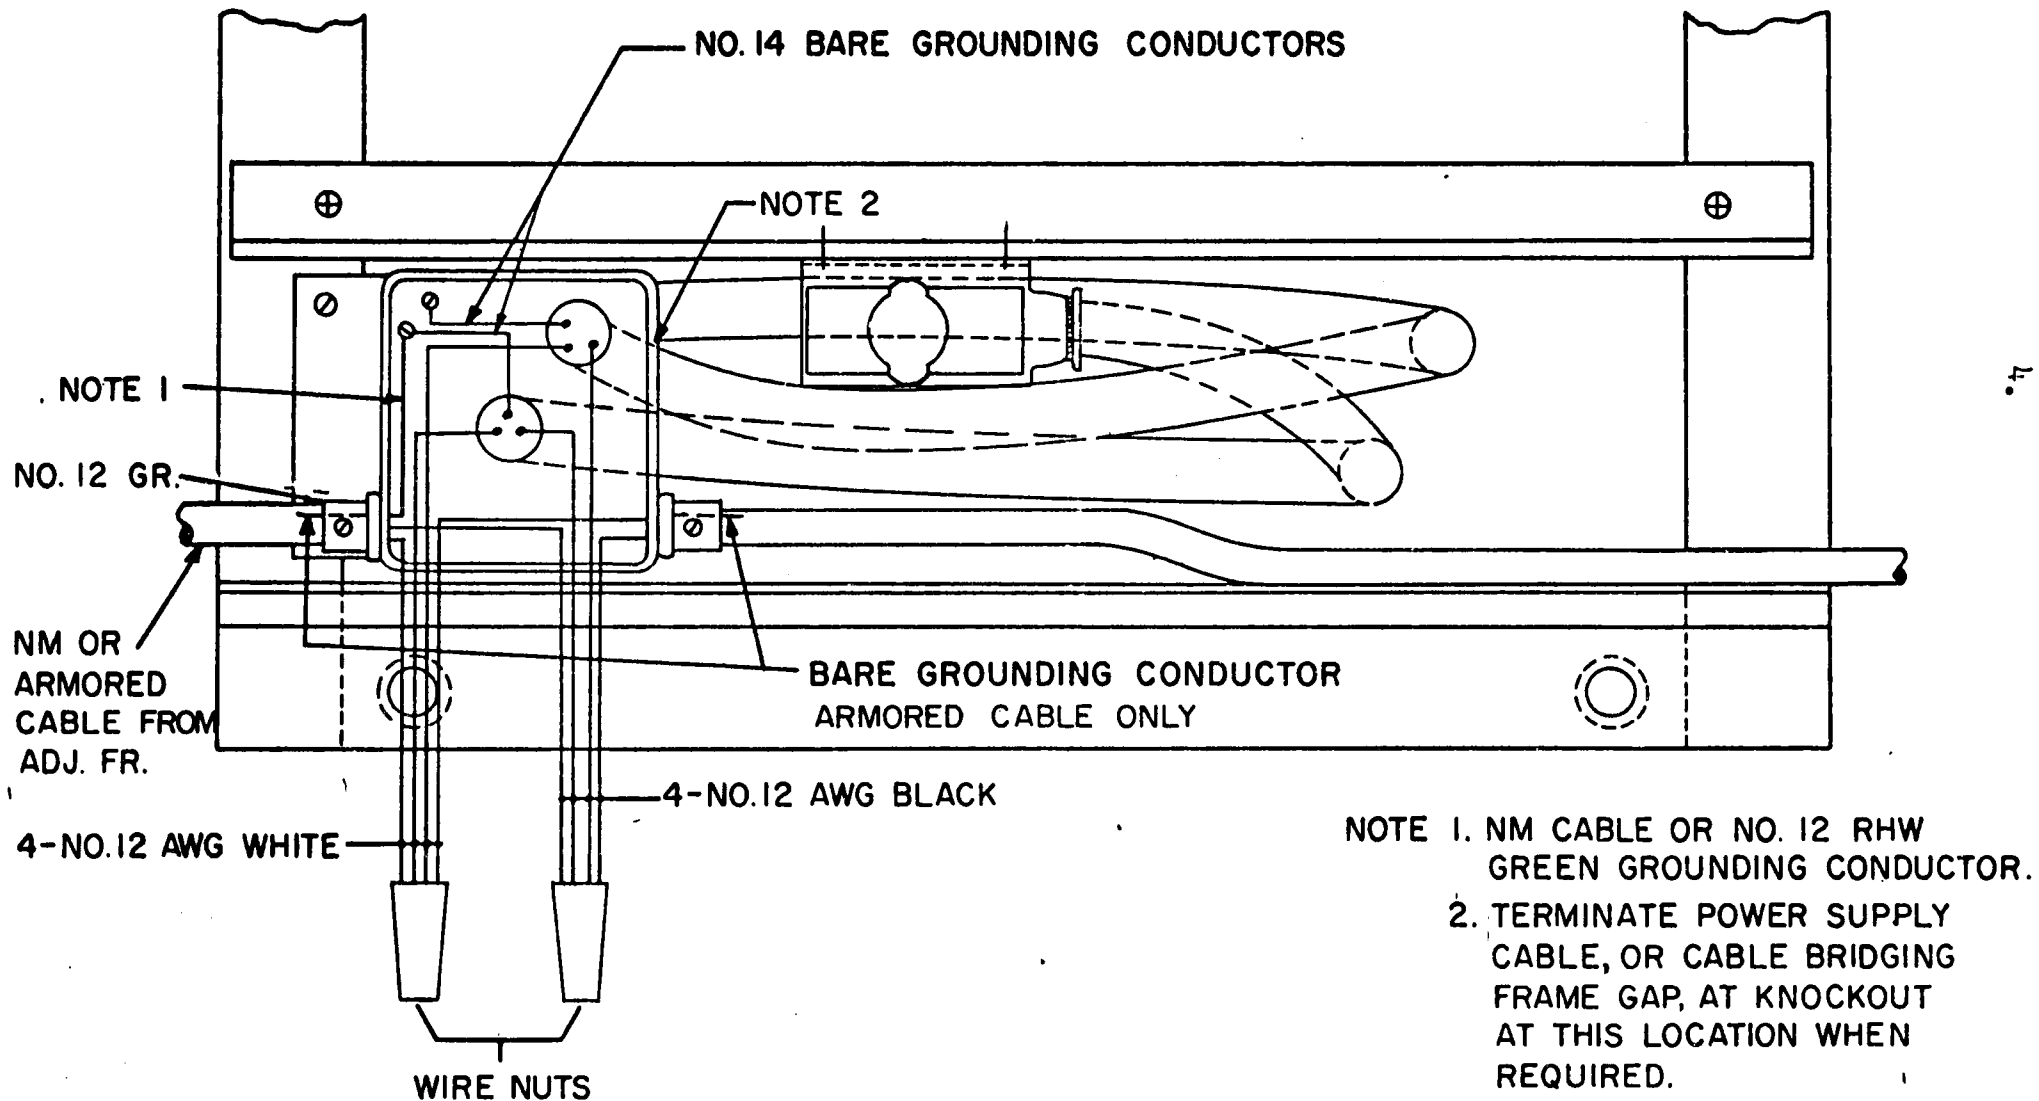

FIG.1 N.E. FRAME APPLIANCE OUTLET WIRING
2.21 N.E. frames are equipped with two appliance outlets (Kondu Co.) wired with armored cable having two, No. 12 circuit conductors and a grounding conductor. Cables entering and leaving the frame, and those running to the frame outlets, terminate in a frame junction box. See Figure 1.
2.311 Terminate cable conductors as shown in Figure 1.
NOTE: Grounding conductors of non metallic cables (Type NM) terminating in the junction box shall be secured under screws provided in the box. See Figure 1.
2.314 The power supply cable at the head of a lineup and at each side of a frame gap (See Figures 1, 2 and 3 on ED-26528-71) shall be brought down the left bay upright and terminated at the frame junction box as shown in Figure 1 of this section.
2.321 Right to Left Growth - Connect NM cable from W.E. frame at N.E. frame junction box per Fig. 1. Secure grounding conductor under screw provided in the box.
2.331 Right to Left Growth - Connect two conductor NM Cable at N.E. frame junction box per Fig. 1. No. 12 Green wire required to extend ground to new frame is terminated under screw provided in junction box.
b) Connect two conductor non metallic or armored W.E. frame cable at N.E. frame junction box per Fig. 1. Use T & B 3302 or KS 5497-01 List 31 connectors as required.